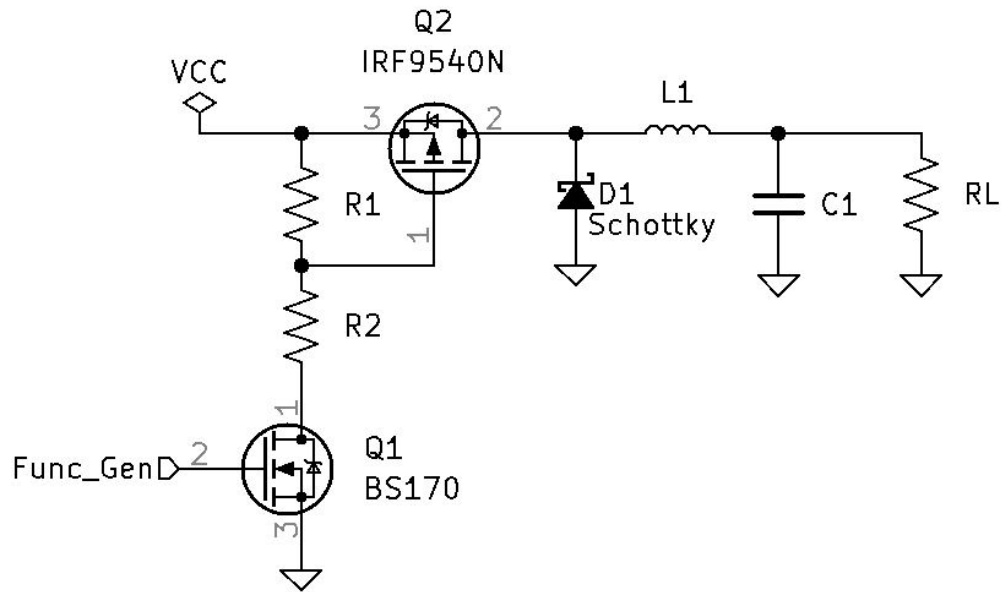

Figure 10.3: SMPS BUCK Discrete Circuit
1. See *SMPS BUCK Discrete Circuit* Figure 10.3.
- Use the previously designed Switching Circuit Figure 10.3 instead of the BJT switches.